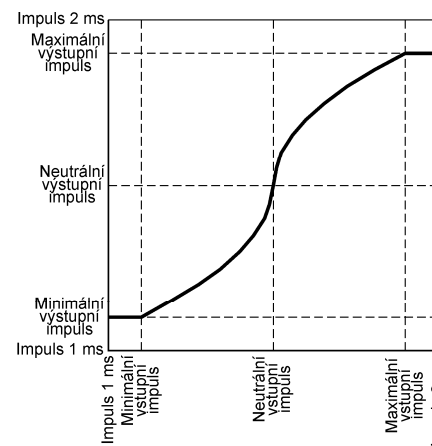

Fig. 2: Square root conversion
5) Square root pulse conversion (Fig. 2):